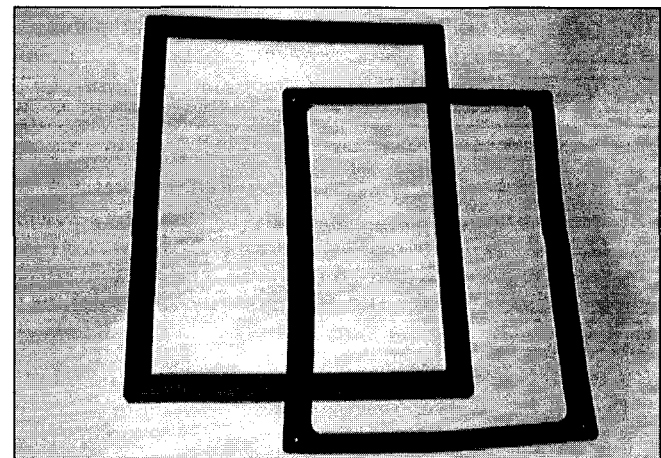

Figure 3-51 Door Escutcheon and Gasket
**Door Escutcheon** - The door escutcheon is a molded frame used to seal the space between the circuit breaker and the compartment door cutout. It is supplied with a mounting gasket (Figure 3-51).